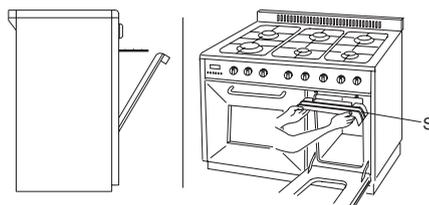

fig. 9
For food that releases a lot of moisture and/or fat, we recommend that the door of the small oven is left slightly ajar. Fit the knob protection plate (S) (see fig. 9) above the oven and allow the door to lean against this. If the door is left open, the kitchen unit's covering must be able to withstand temperatures of at least 90 °C.